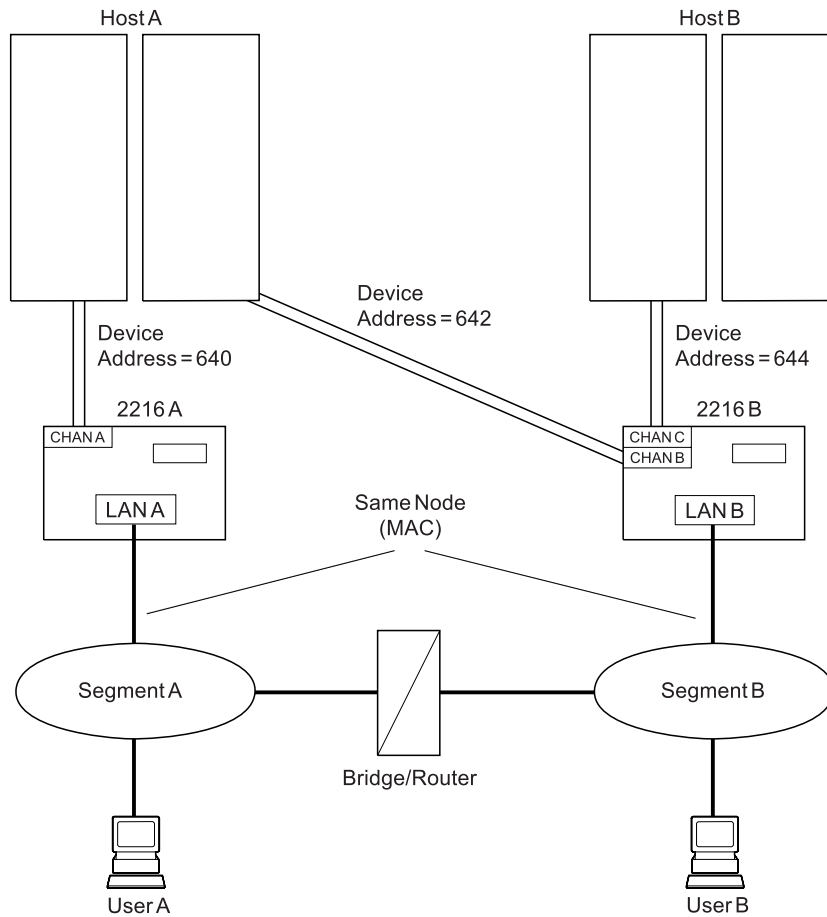
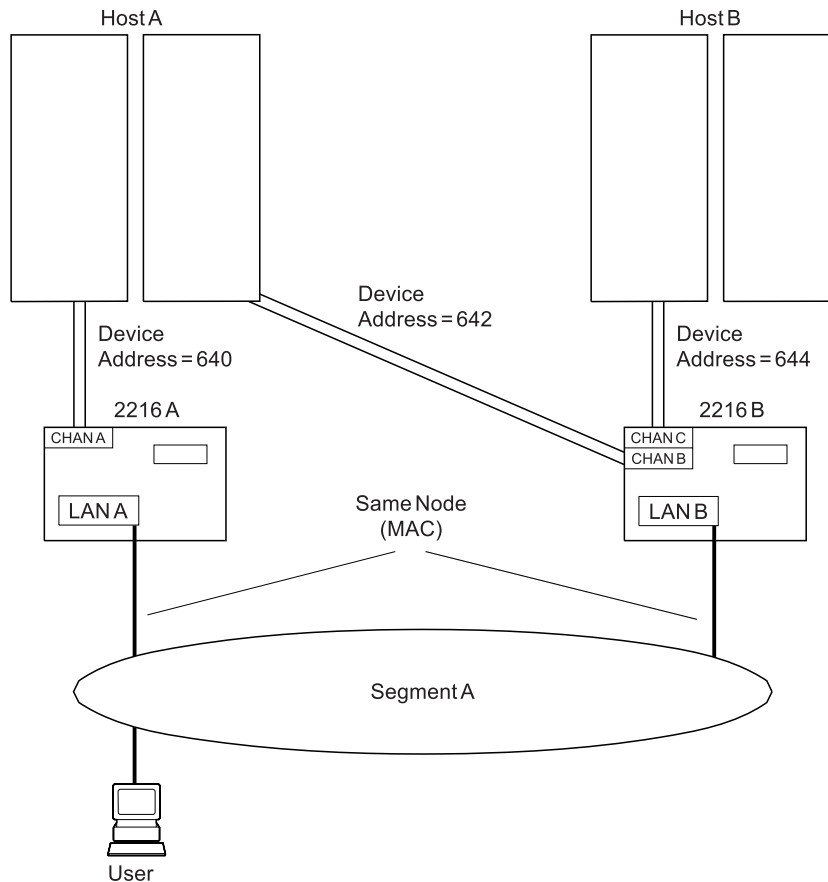

Figure 5-9. 2216 Model 400 or Network Utility and Host Backup Using Two LAN Segments
Figure 5-10. 2216 Model 400 or Network Utility and Host Backup Using One LAN Segment
To recover from host failures, a secondary host and a path to that host are required. In Figure 5-9, if Host A fails, users have access to Host B through 2216B. When Host A recovers, user access to Host A can be restored. This is just one example of recovering from a host failure. For host failures, other factors should also be considered, such as availability of applications and data on the secondary host.
To recover from 2216 Model 400 or Network Utility failures, a second 2216 Model 400 or Network Utility must be in the path to your hosts. In Figure 5-9, when 2216A fails, users of Host A could be rerouted through 2216B, because there are two paths to Host A. When 2216A recovers, users of Host A could be rerouted back through 2216A. There is only one path to Host B; and if 2216B fails, users will not be able to access Host B. This could be resolved by connecting and configuring Host B to 2216A. When 2216B recovers, user access to Host B could be restored. Again, other variations of this example could be employed to recover from 2216 Model 400 or Network Utility failure.
The backup configuration in Figure 5-9 on page 5-20 is designed as follows:
Figure 5-9 on page 5-20 and Figure 5-10 on page 5-21 show sample Token-Ring LAN segments, but the same principles apply to all the LAN types supported by the 2216 Model 400 or Network Utility.
Figure 5-10 provides the same host and 2216 Model 400 or Network Utility backup as Figure 5-9 on page 5-20, except that:
To demonstrate backup in the VTAM environment using the system in Figure 5-9 on page 5-20, assume that both routers and hosts are operational and that 2216A and Host A are being used as the primary system. Only the XCA major node for 2216A is active.
To demonstrate backup in the VTAM environment using the system in Figure 5-10 on page 5-21, assume that both hosts and both 2216s are operational, and that host A and 2216A are being used as the primary system.
To demonstrate backup in a TCP/IP environment using the system in Figure 5-9 on page 5-20, assume that both routers and hosts are operational and that 2216A and host A are being used as the primary system.
These steps can also be followed using the system in Figure 5-10 on page 5-21.
TCP/IP host backup is not illustrated in Figure 5-9 on page 5-20 or Figure 5-10 on page 5-21. Because each TCP/IP host requires its own LAN adapter, you will not be able to recover from TCP/IP host failures as you can with VTAM hosts. You can, however, add a LAN adapter to either 2216 Model 400 (or both if you want a backup for both hosts) and define a connection between the host and LAN adapters.
- These new adapters will not have the same node (or MAC) address as the adapters for your primary hosts (shown in Figure 5-9 on page 5-20 and Figure 5-10 on page 5-21).
Increasing Availability in a UDP+ Environment: For the system in Figure 5-9 on page 5-20, assume that both 2216s and hosts are operational and that 2216A and host A are being used as the primary system. One would increase availability by detaching the UDP+ connection between host A and 2216A and bringing up a UDP+ connection between host A and 2216B. For details, refer to the *OS/390 TCP/IP Update Guide*, GC31–8553.